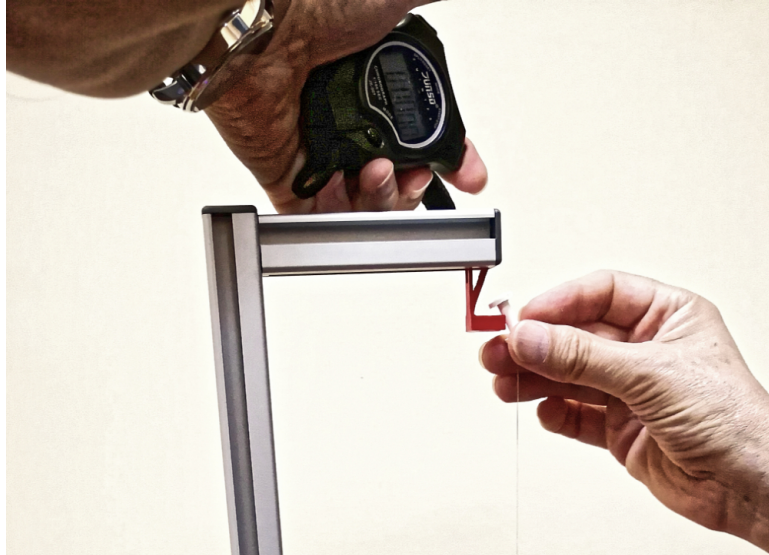

Figure 4. Hanging the thread on the support and starting the measurements.
1. Keeping the mass-set on the scale platform, stretch the thread so that the holding screw at the opposite side is placed on the thread supporting system, at the standing structure (Figure 4).